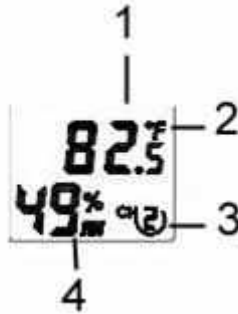

Figure 16: sensor LCD display
6. Verify the correct channel number (CH) and temperature units of measure ($^{\circ}\text{F}$ vs. $^{\circ}\text{C}$) are on the display, as shown in Figure 16 .